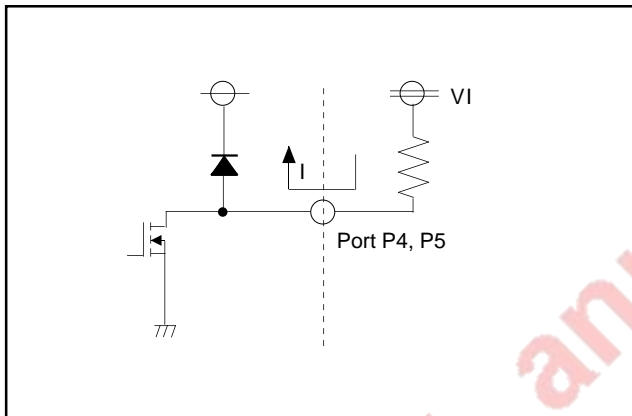

Fig. 55 Notes on use of ports P4 and P5
**4** : When applying a voltage through a resistor as shown in the figure 55, VI > VCC may be accepted if the current is 1 mA or less.